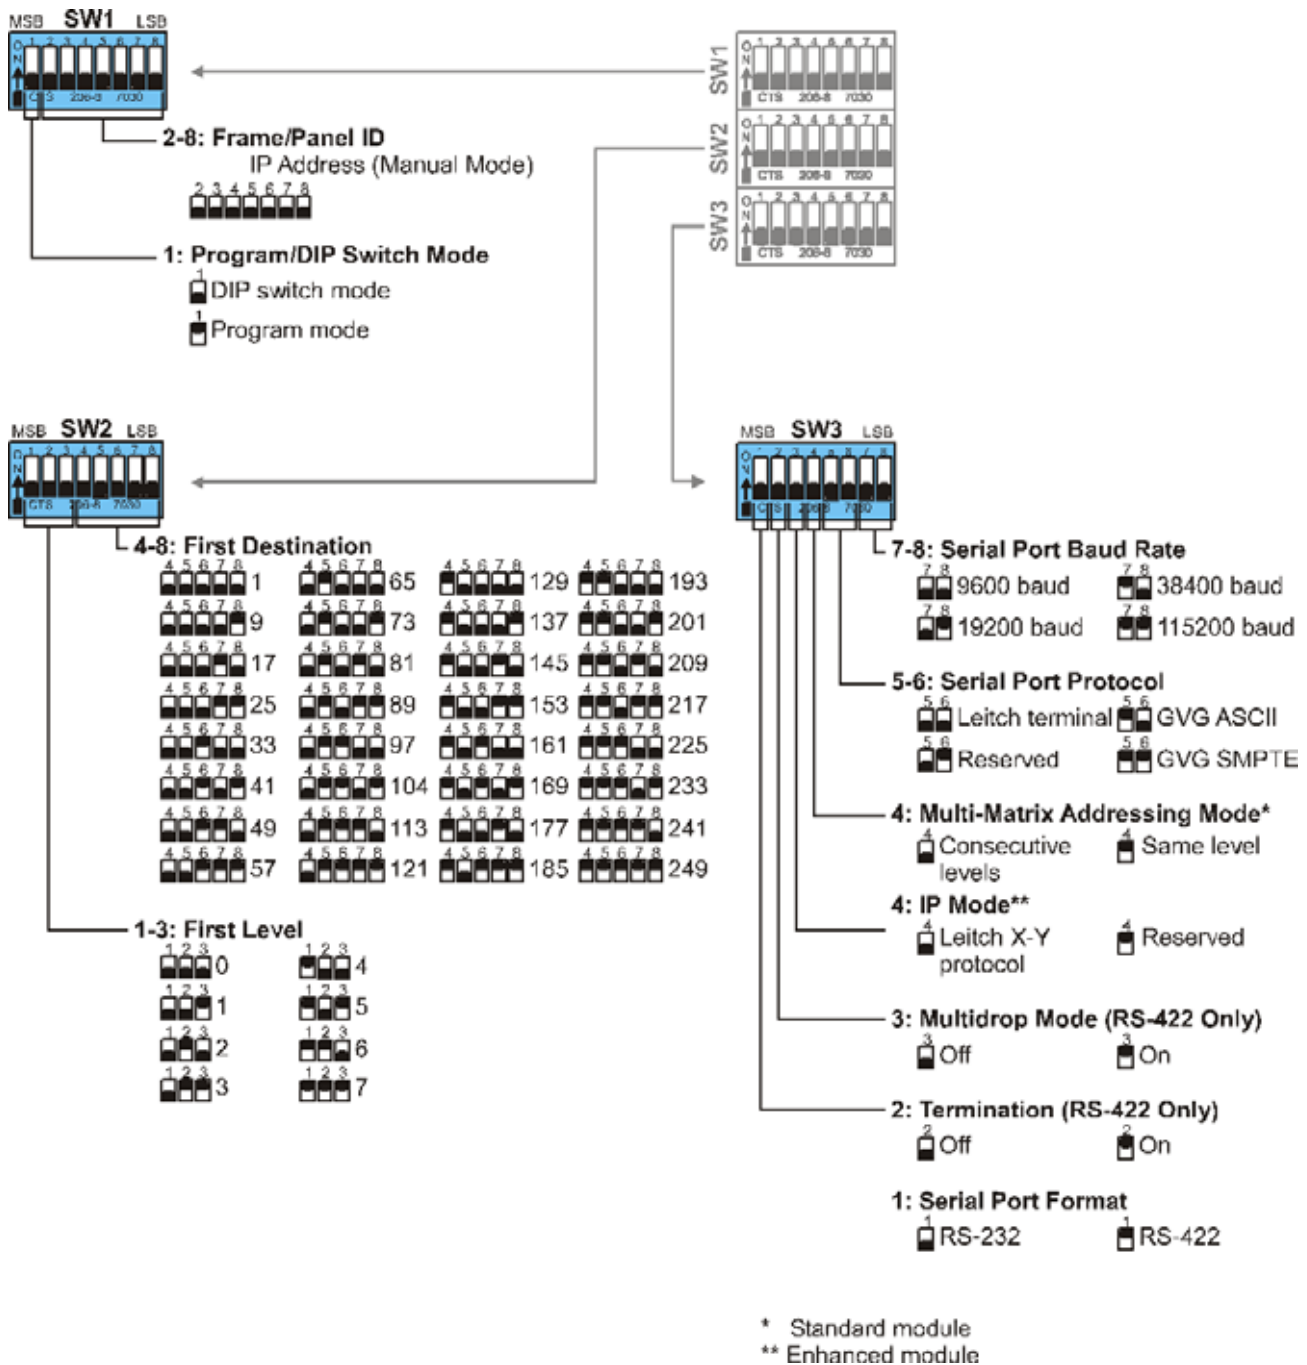

Figure 1-1 DIP Switches
- 4 Set the DIP switches on the logic controller module as shown in Figure 1-1. Tilt the front panel back up to cover the exposed front of the router.
- 2 Make any DIP switch configuration changes you desire as shown in Figure 1-1 on page 7.